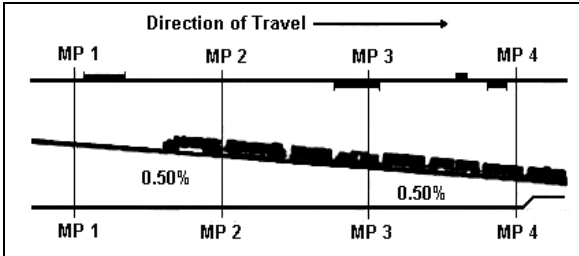

**Figure 5-4. Direction of Train Travel in a Back-Up Movement on a Level or Ascending Grade Track**
d. **Back-Up Movement (Level or Ascending Grade)** (see Figure 5-4).